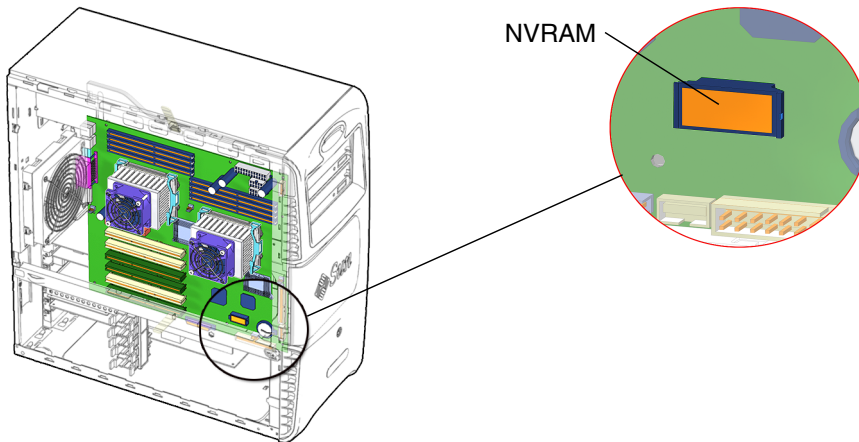

FIGURE 11-24 NVRAM Location and Identification
2. **Locate NVRAM (FIGURE 11-24).**